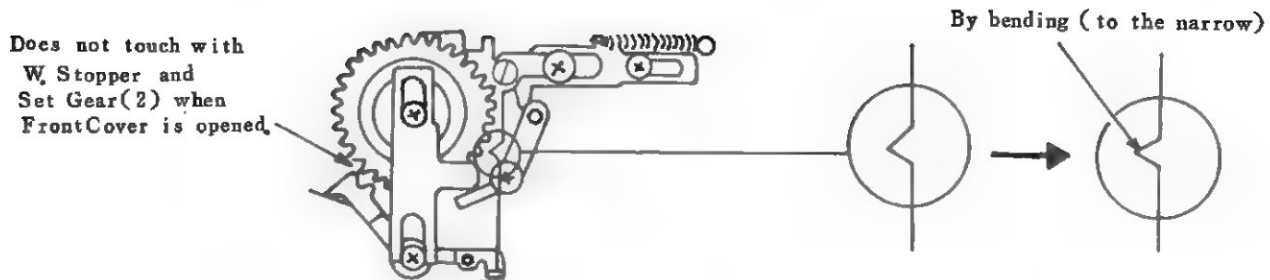

Fig 21
- e) Adjust by bending W. Wire (352724) as shown in (Fig 21).